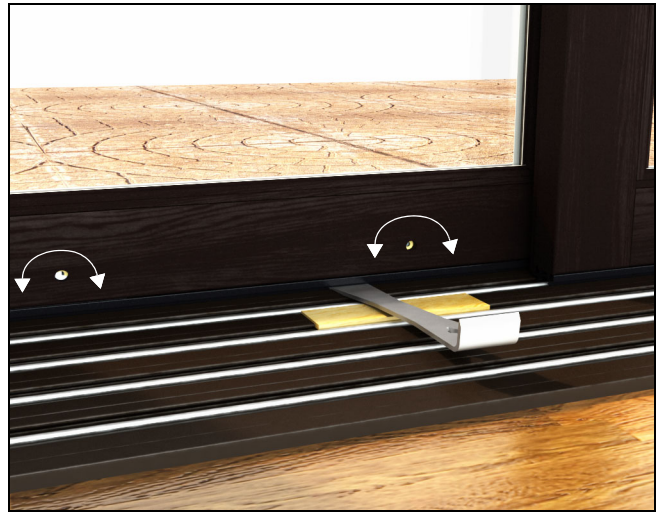

Figure 139
1. *Rollers must be adjusted to raised panel position.* To adjust panel rollers, panel weight must be removed from rollers prior to adjustment. Use a pry bar to lift panel, ensuring protection of sill. See figure 139. Using a #3 Phillips screwdriver, rotate screwdriver in adjustment holes until arrows showing adjusting